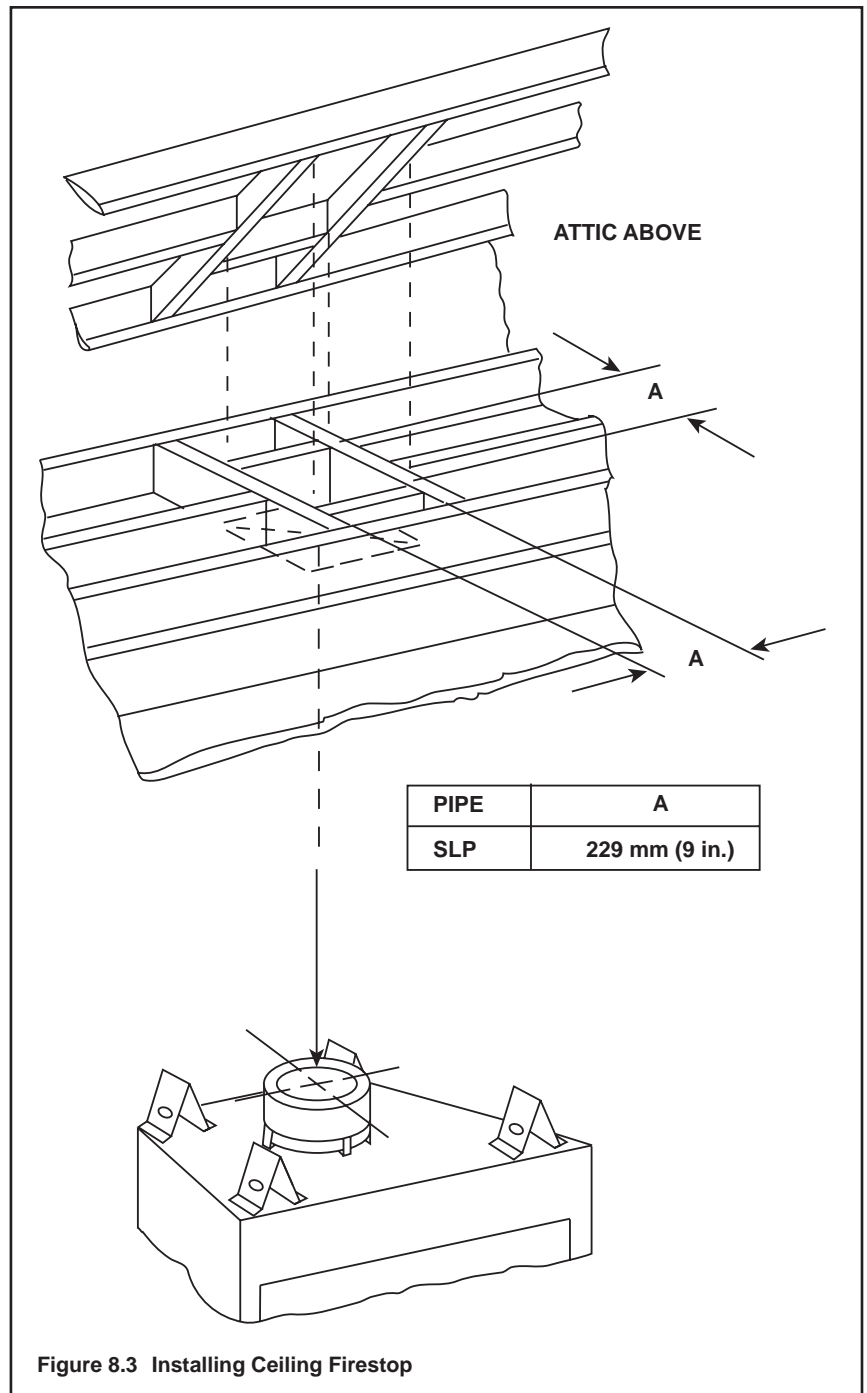

Figure 8.3 Installing Ceiling Firestop
- **SLP pipe only** - Frame opening 229 mm x 229 mm (9 inch x 9 inch) whenever the vent penetrates a ceiling/floor (see Figure 8.3).